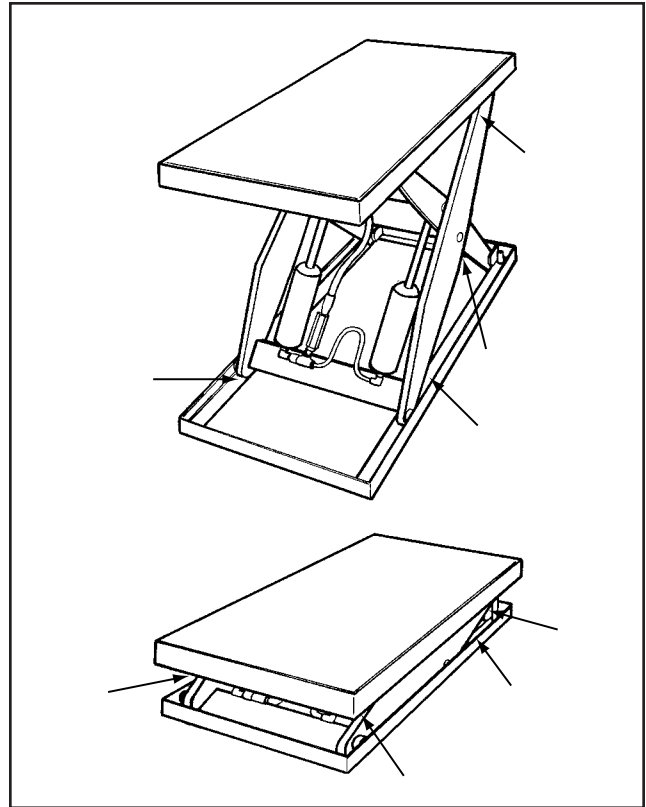

Figure 6 – Pinch Points
As the lift table moves up and down, “pinch points” are created at the places shown in Figure 6. If you are standing too close to the lift when it is moving, your arm or leg may be caught in the moving parts, and you may be hurt. Stay away from the pinch points when the lift is moving.
As the lift table moves up and down, “pinch points” are created as shown in Figure 6. Stay away from these pinch points! Part of your body or clothing may become caught, and you may be hurt.
- As the lift moves up and down, "pinch points" are formed as shown in Figure 6. Keep hands, feet, and loose clothing away from these pinch points. If your hand or arm or a part of your clothing is caught, you may be hurt.